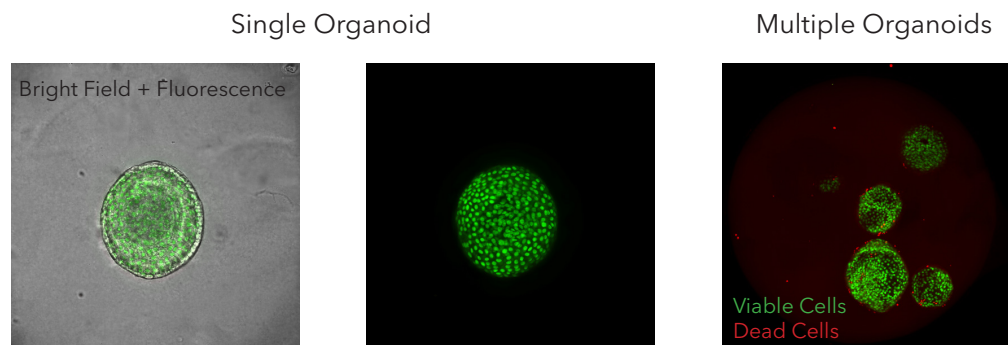

Fig 4. Confocal images of a single organoid (A) and multiple organoids (B) stained with CyQuant (viable cells) and EthD (dead cells) in 25% Matrigel.
2. At the end of the incubation an optional wash step can be performed. The flowchip holder was removed and organoids were imaged (Figure 4).